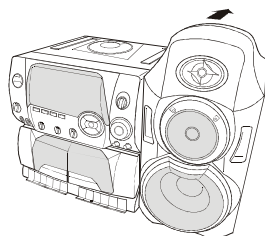

FIG.2
3. When speaker align with the rails, push the speaker into the rails as shown in FIG. 2.